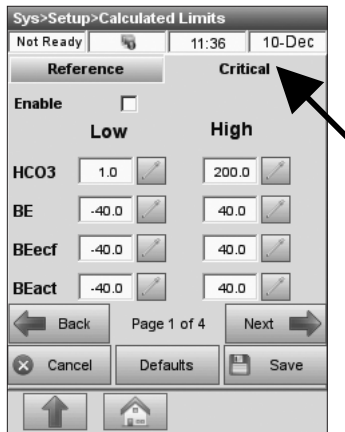

Fig. 3-42 Enter Critical Limits
- Select the **<Critical>** tab (Fig. 3-42).